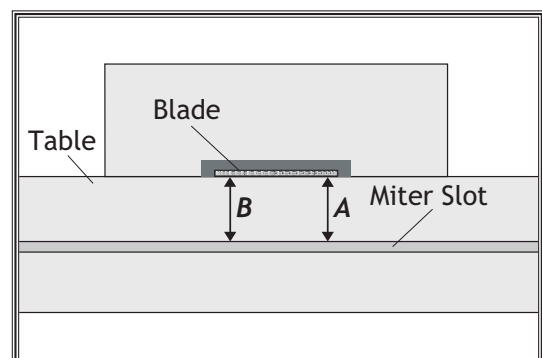

Figure 99. Measuring gap between the table and the blade.
4. Using an adjustable square or a dial indicator, measure the distance (A) between the miter slot and the front of the blade, as shown in **Figure 99**.